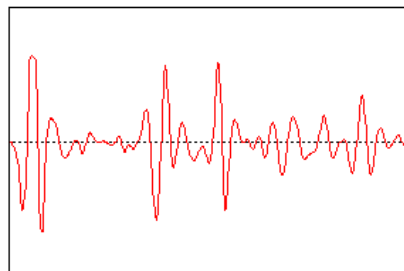

Fig. 2.3. Example of an output signal of the receiver
The process presented on Fig. 2.3 is extremely fast; it lasts dozens to hundreds of nanoseconds and is technically difficult to process. A stroboscopic converter is used to "stretch" this process. The synchronizer controls all units of the georadar and, in its turn, is controlled by PDA and the Software.
2. **Trace** – an aggregate of samples containing one-dimensional information on reflected signals. Examples of traces are shown on Fig. 2.3 and 4.1.